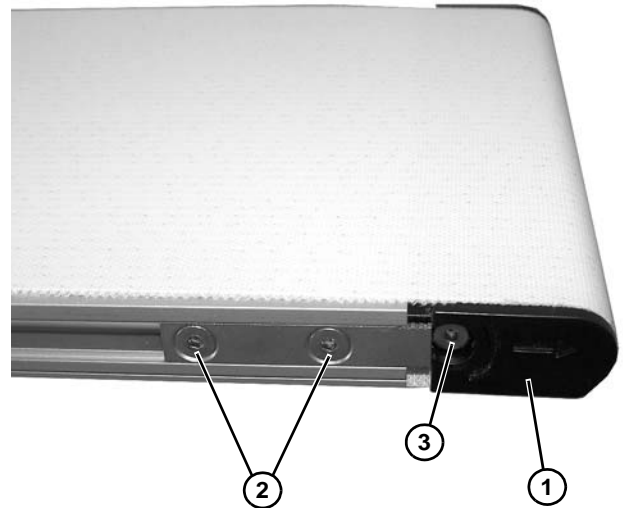

Figure 29
2. On both sides of the idler end (Figure 29, item 1) conveyor, loosen two (2) head plate fastening screws (Figure 29, item 2).
3. On both sides of conveyor, rotate belt tracking cam screw (Figure 29, item 3) to remove tension on belt.